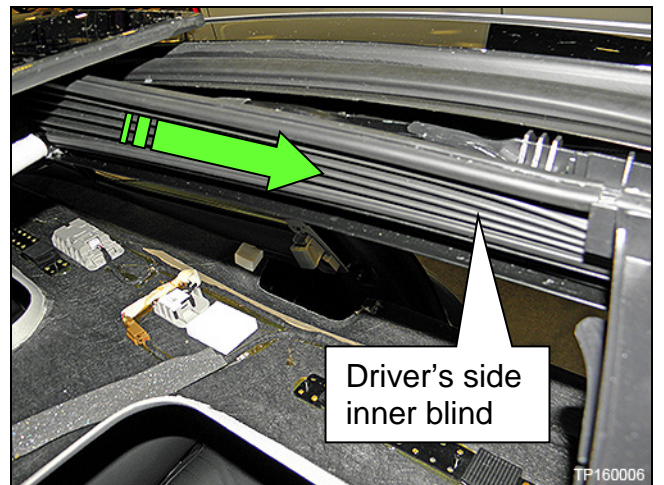

Figure 37
- c. Slide each inner blind off of the Moonroof guides (Figure 37).